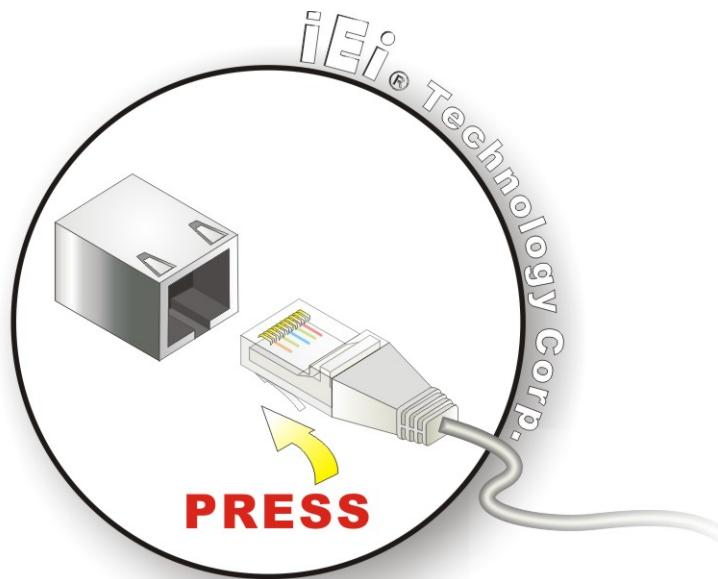

Figure 3-25: LAN Connection
Step 2: Align the connectors. Align the RJ-45 connector on the LAN cable with one of the RJ-45 connectors on the ECW-281B-D2550. See **Figure 3-25**.